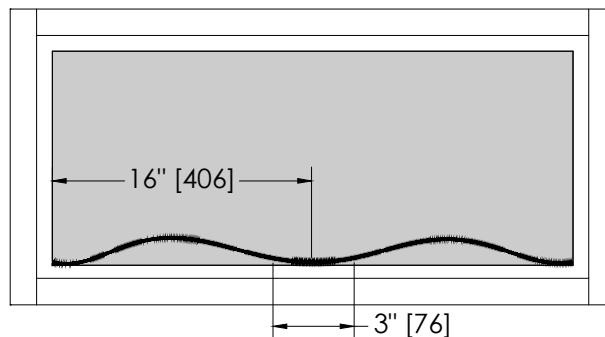

FIG. 4
- a. Cut airseal gasket 1/4" [6] longer per foot to avoid shrinkage at a later stage. **See FIG. 4**